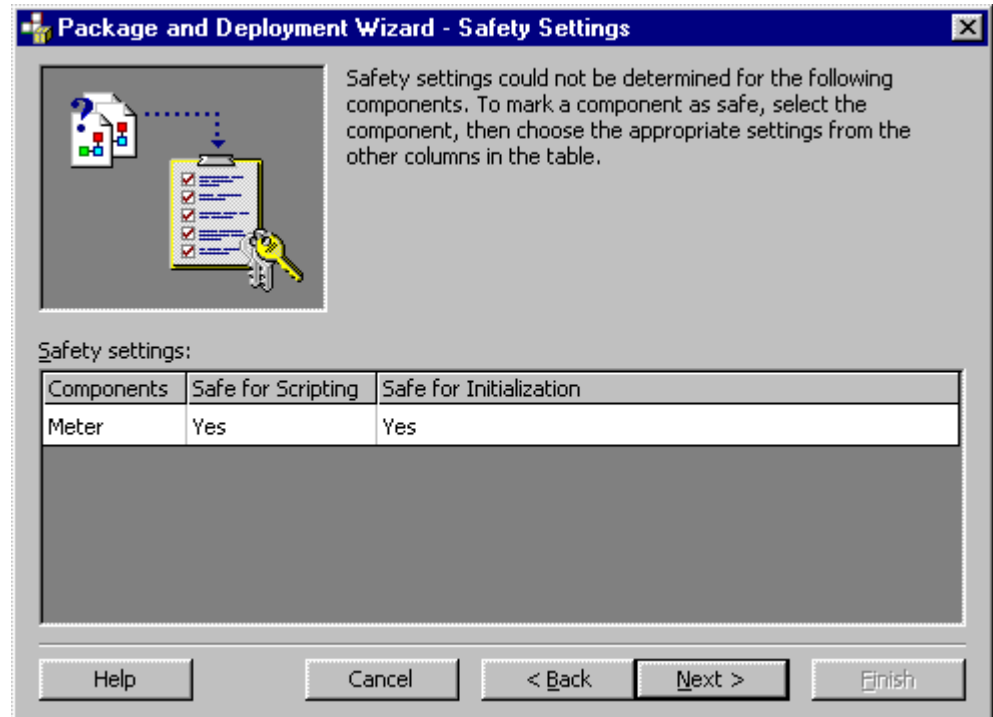

Figure 23. Is it safe?
4. On the Safety Settings page, make sure the **Safe for Initialization** and **Safe for Scripting** options are both set to Yes for your control (see Figure 23).